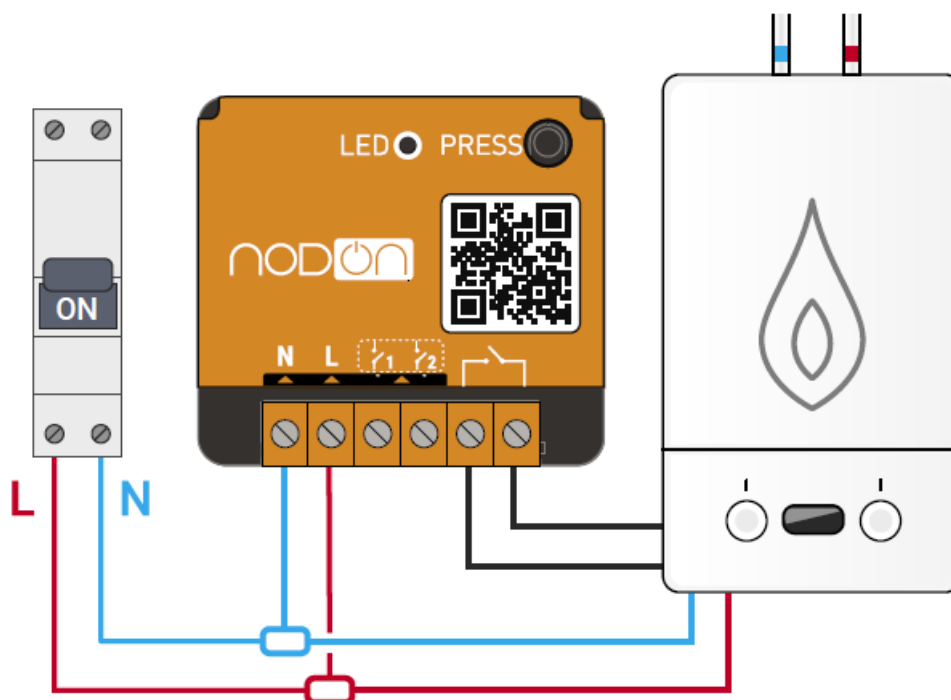

Figure 3
3. Wire the Multifunction Relay Switch following the diagram in figure 3, making sure to connect the two wires which control the ambient thermostat (see your boiler user guide).